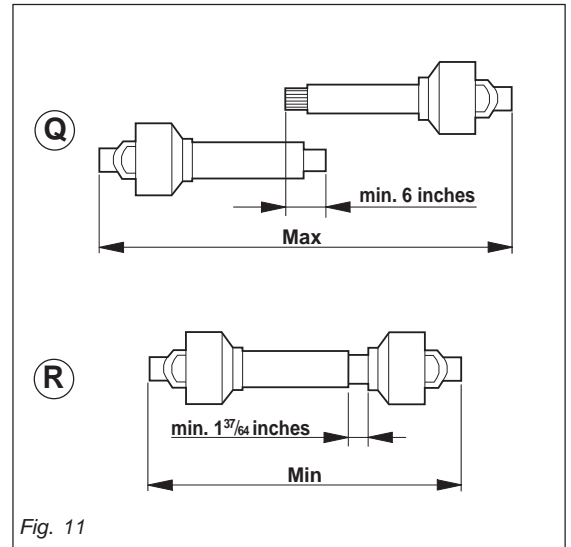

Fig. 11
- When the PTO shaft is fully extended, the two tubes must overlap by at least 6 inches (Q Fig. 11). When fully inserted, the minimum play must be  $1\frac{37}{64}$  inches (R Fig.11).